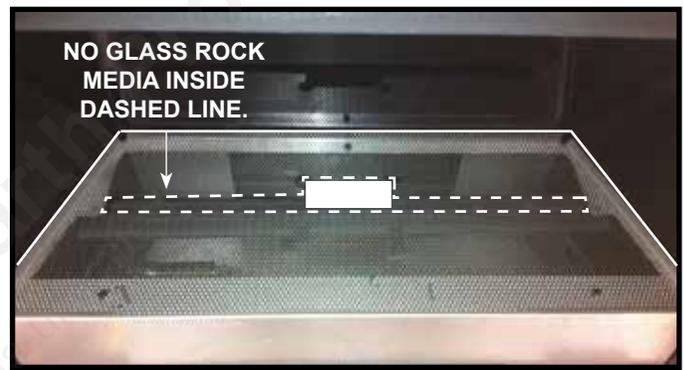

Figure 14.1. Glass Rock Media Jig Location
3. Remove rock placement jig by removing one screw that attaches jig to pilot shield. Location of the jig is represented by the white, boxed area in Figure 14.1. Place smaller sized glass rock media on top of the pilot shield. See Figure 14.3. Do not place glass rock media in front of pilot assembly.